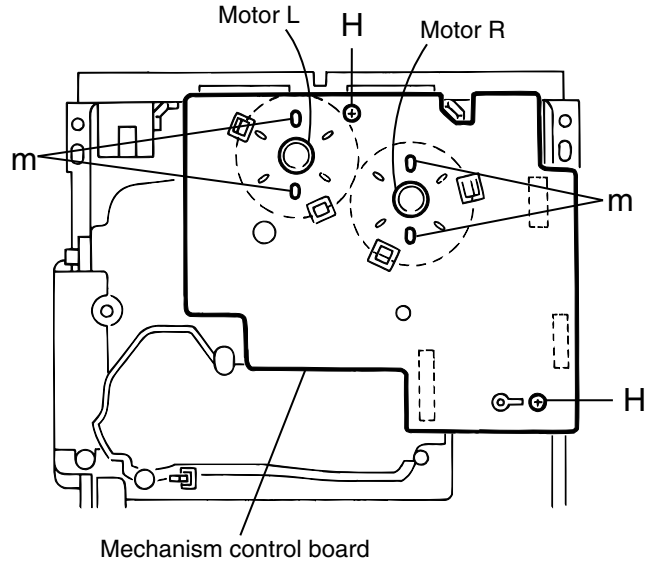

Fig.14
■ Removing the mechanism control board (See Fig.14, 15)
1. Absorb the four soldered positions **m** of the right and left motors with a soldering absorber(See Fig.14).
2. Remove the two screws **H** retaining the mechanism control board(See Fig.14).